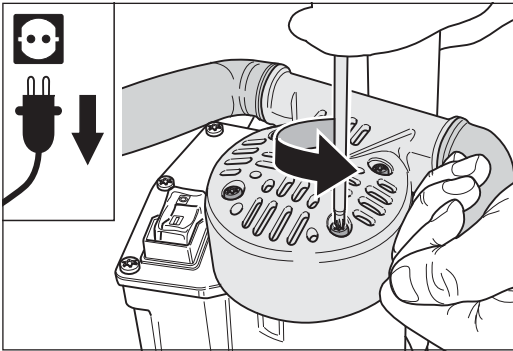
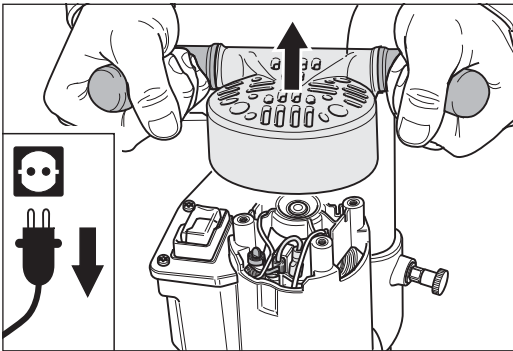

Fig. 52 Remove the four fixing screws of the handle.
Fig. 53 Remove the handle.
- 2 Undo the four fixing screws of the handle (fig. 52) and remove it from the motor housing (fig. 53). **Make sure that no parts fall into the motor when doing so!**